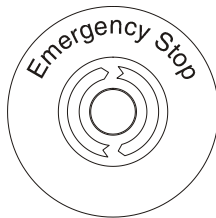

Figure 19. Emergency Stop Switch
1. Locate the Emergency Stop Switch (Figure 19) on the Hydraulic Pump Control Box. Turn the Emergency Stop switch clockwise and release (open). This will allow the engine to start.